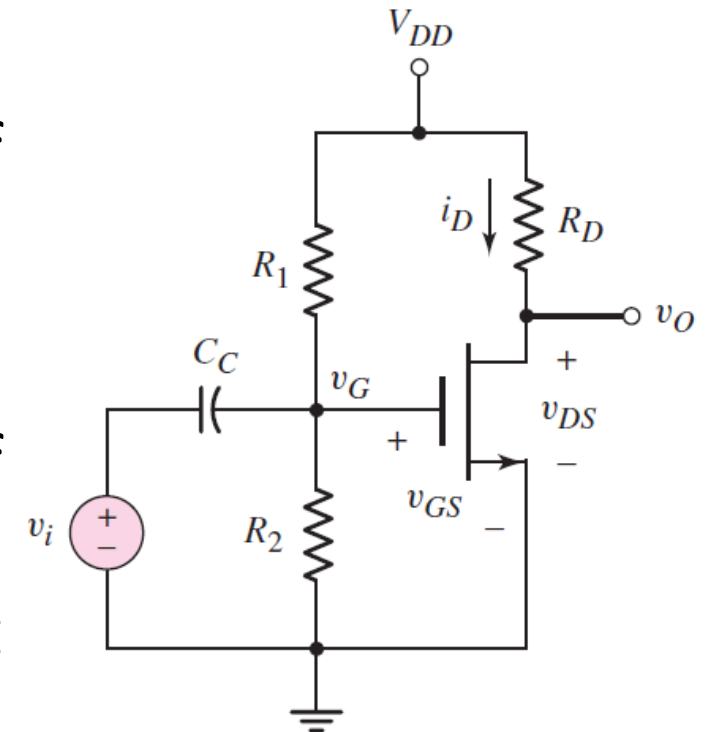

Figure 3.24
- Figure 3.24 shows one example of this type of circuit using an n-channel enhancement-mode MOSFET.